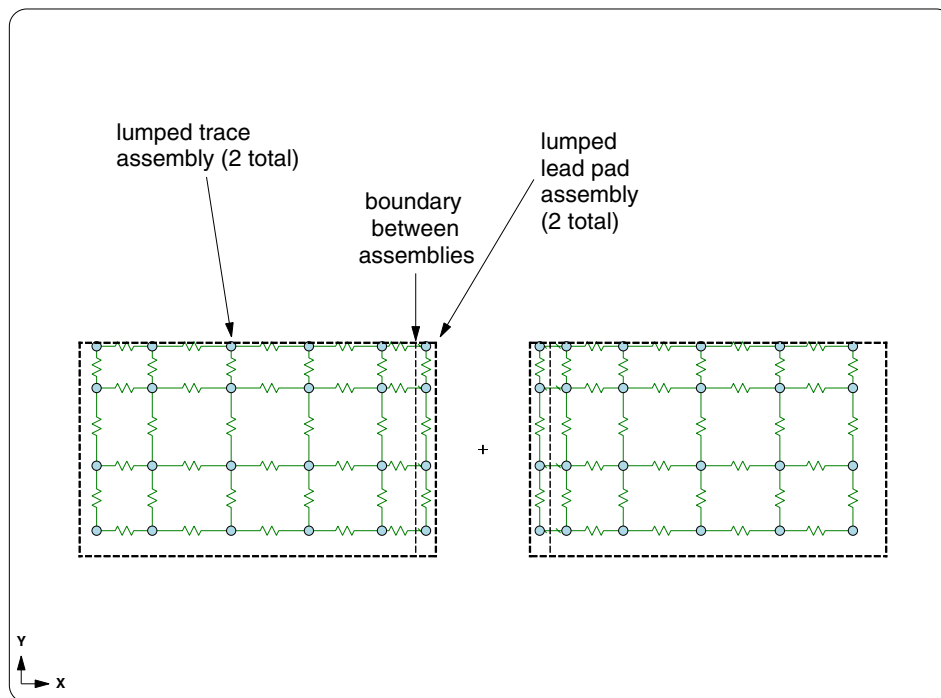

Figure 2-36: Lead pads and traces with lumped option
**<F3 Zoom In> → zoom in to match Figure 2-36**
As you can see from Figure 2-36, Sauna created 4 assemblies (2 lead pad assemblies and 2 trace assemblies). The thin dashed line between assemblies is clearly visible in this picture.